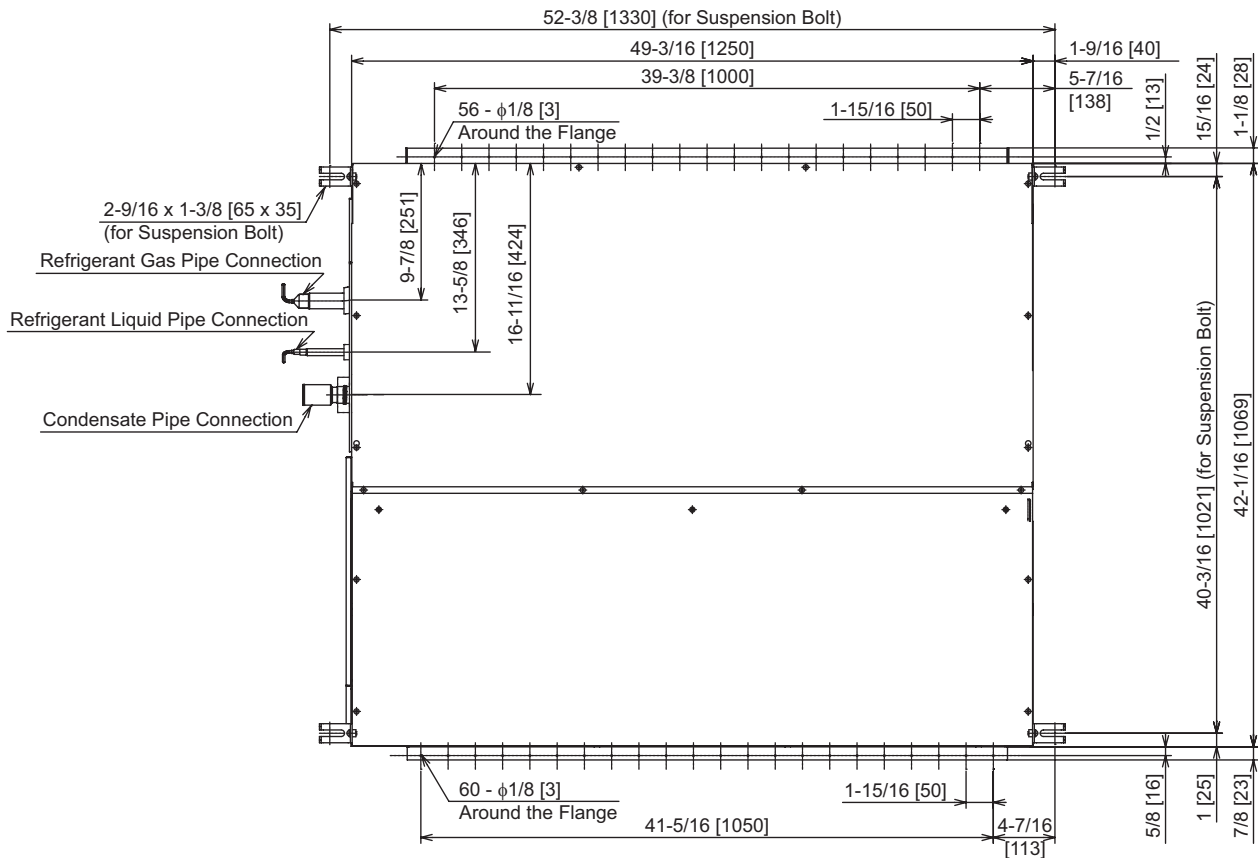

Figure 5.2 Suspension Bolts
- (1) Mark the positions of the suspension bolts, refrigerant pipe connections and condensate pipe connection.
- (2) Installation dimensions are shown in Figure 5.2.